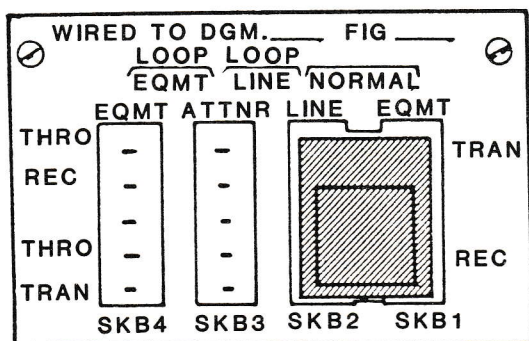
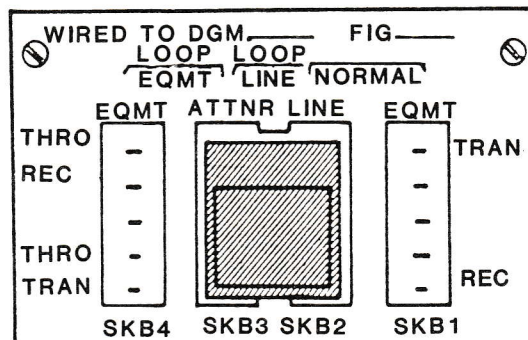

Fig B3. Test Unit with the brown plug in the NORMAL or operating position.
Fig B4. Test Unit with the brown plug in the LINE TEST position.
- a. Remove cover from BT junction box and ensure that link plug is in the right-hand position. If not, the plug is to be removed and inserted in this position. (See Fig B3)
- (1) Press the call button for at least 5 seconds and then release (repeat if necessary).
- (2) When the Control replies by saying the Group name and the word Control, adjust the volume to a comfortable level of reception.
11. The most common of the testing units in use is shown in Fig B3 and B4. Figure B3 shows the plug in the NORMAL position when the LST is in use. Figure B4 shows the plug in the LINE TEST position. This latter position is that in which the plug must be placed at the end of each operation or training meeting and the former is that to which the plug must be restored on manning up for subsequent operations.